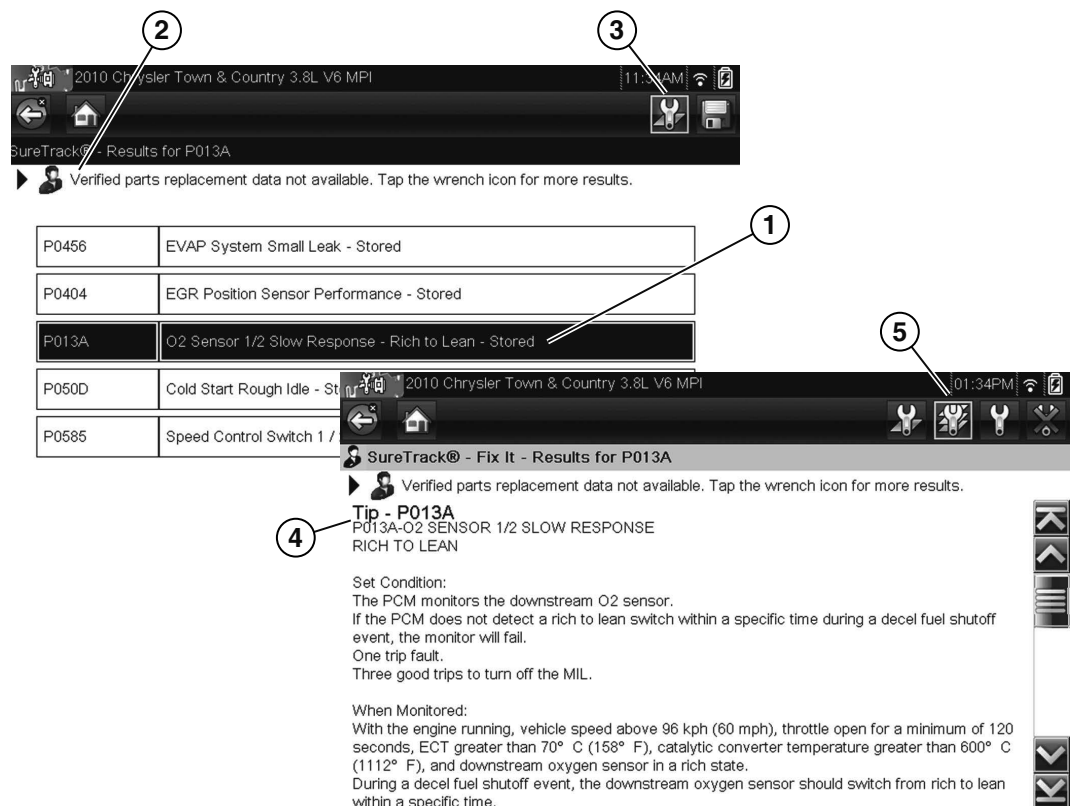

Figure 4
1. Select **DTC P013A** from the list (Figure 4 - (1)).
2. The message “Verified parts replacement data not available. Tap the wrench icon for more results” displays in the Common Replaced Parts graph area (Figure 4 - (2)).
3. Select the **Fix It!** icon (Figure 4 - (3)).
4. A Tip for P013A is displayed (Figure 4 - (4)).
5. Select the **Related Tips** icon (Figure 4 - (5)).